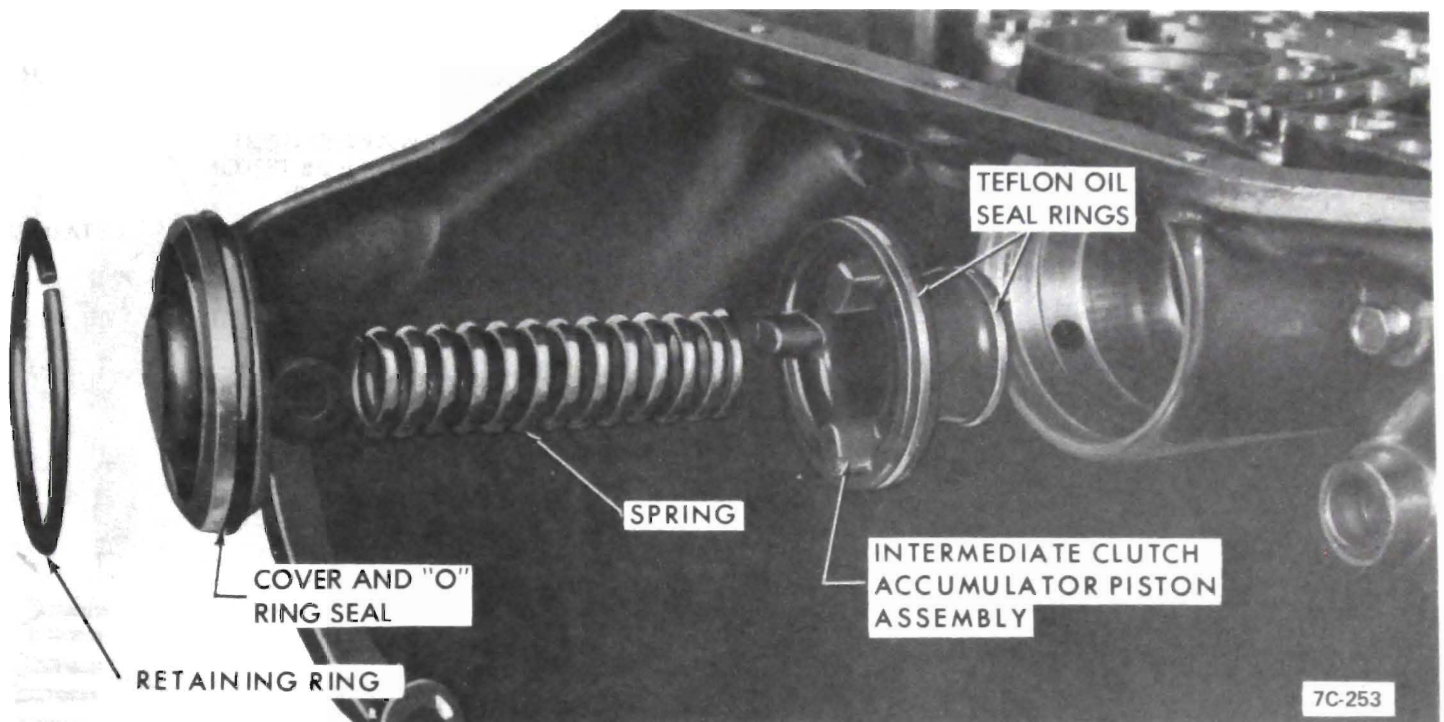

Figure 7C-78 Intermediate Clutch Accumulator
1. Install intermediate clutch accumulator piston assembly. See Figure 7C-78.